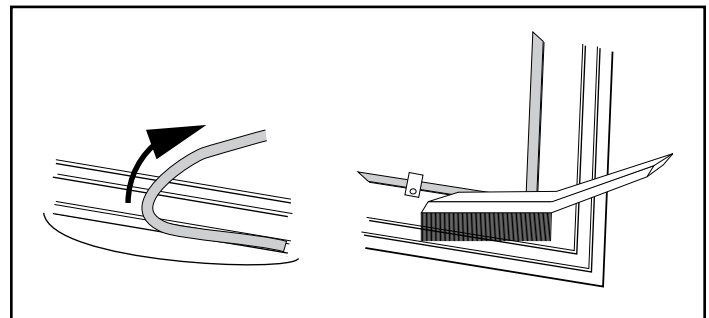

Figure 3.5 - Remove gasket then clean channel with wire brush.
1. Remove the existing gasket by grasping an end and pulling firmly, Figure 3.5.
2. Use a wire brush or the tip of a screwdriver to clean the channel of any remaining cement or bits of gasket. Remove stubborn deposits of cement with a cold chisel if necessary, Figure 3.5.